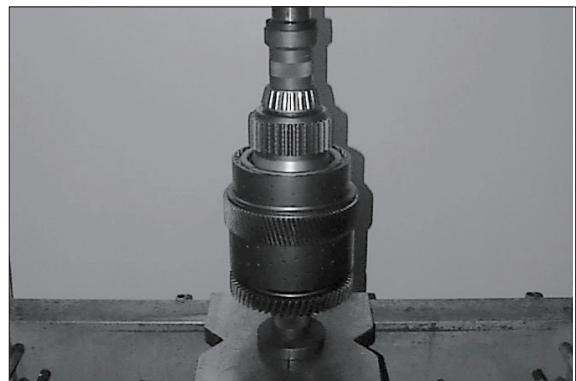

Figure 225
(10) Lift the disc carrier out of the clamping ring. To ensure the exact locating of the single components, preload the bearing with 100kN (10 t) (figure 225).